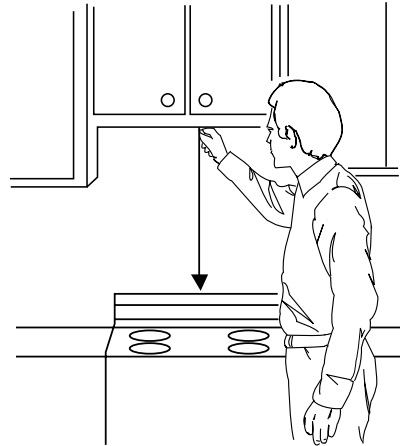

Figure 22
1. Using a plumb line and (metal) measuring tape, find and mark the vertical center line on the back wall, as in Figure 22.
NOTE: Be sure the minimum width is 30 inches and the distance from the top of the wall template to the range or counter top is at least 30 inches. See Figure 22.